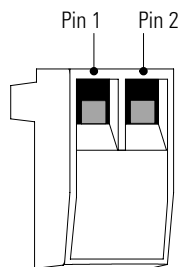

Figure 24. REPO Connector
3. Connect isolated, normally-closed, dry contacts (rated to handle 60 Vdc maximum, 30 Vac RMS maximum, and 20 mA maximum) across the REPO device to Pin 1 and Pin 2 (see Figure 24). Use stranded, non-shielded wiring, size 0.75 mm²–0.5 mm² (18–20 AWG).